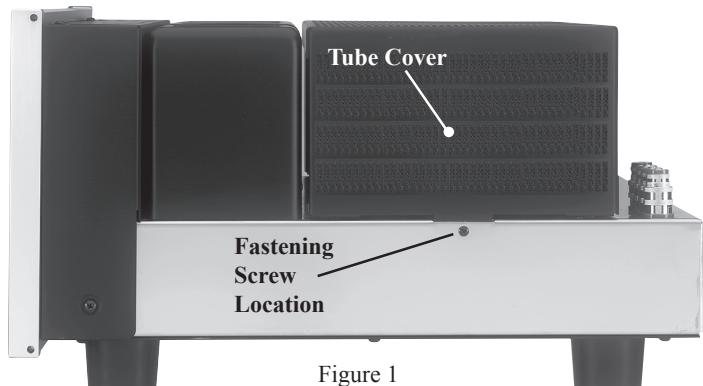

Figure 1
1. Orient the MA2275 so the right Side Panel is facing you. Refer to figure 1.